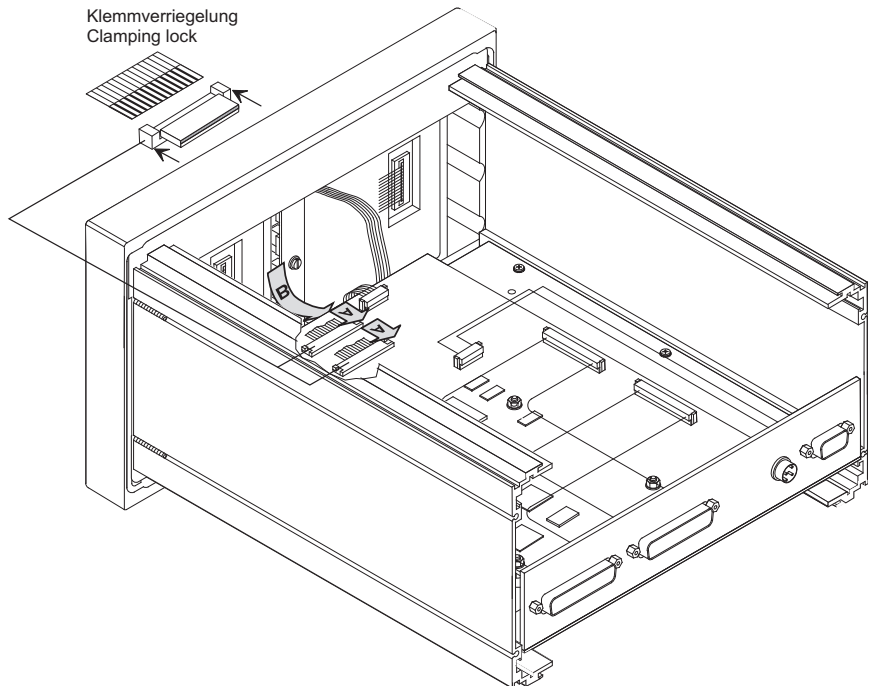

Fig. 8-32: Reconnecting the connecting cables and the data cables
17. Reconnect the flat cables on the upper side (fig. 8-32, A), then on the bottom side (fig. 8-32, B). Avoid damage of the flat cables because of canting.